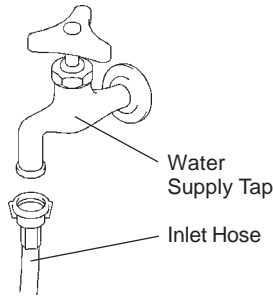

Fig. 8
- 2) Attach the other end of inlet hose to the water tap (Fig. 8), noting washer is correctly positioned before hand tightening as above. It is a wise precaution to have a stop valve within easy reach.
2) Attach the other end of inlet hose to the water tap (Fig. 8), noting washer is correctly positioned before hand tightening as above.